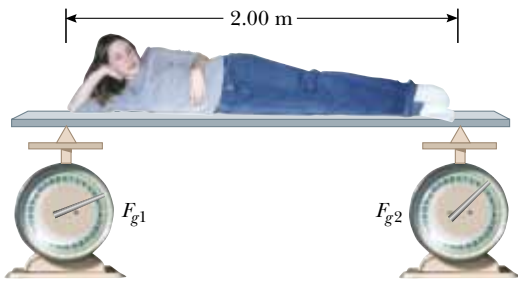

Figure P12.65
65. In Figure P12.65, the scales read $F_{g1} = 380 \text{ N}$ and $F_{g2} = 320 \text{ N}$. Neglecting the weight of the supporting plank,